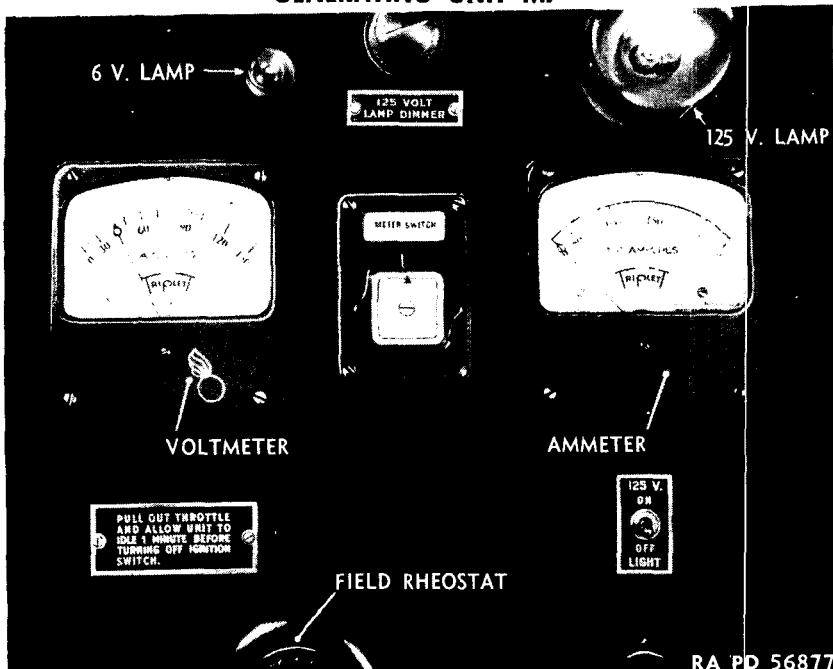

Figure 11—Voltmeter and Meter Switch—Showing Correct Exciter Indication
c. **Load Meter.** To check the voltage of the exciter, the amperage of the current being delivered to each of the three phases of the connected load, and the voltage between phases, the meter switch is provided. The four positions of the control knob, "EXC," "A," "B," and "C," are labeled on the face plate of the switch. When the indicating mark on the control knob is turned to "EXC," the exciter voltage is reflected on the voltmeter (fig. 11). As the switch turns to the "A," "B," and "C" phases of the circuit, the amperage and voltage show on the ammeter and voltmeter (fig. 12). The average of the three readings on the ammeter should not exceed 162 amperes for continuous operation, or 202 amperes over a period of operation not to exceed 2 hours. The difference in ammeter readings should not exceed 10 percent of the average. If the load is largely of the resistance type, such as lighting or heating units, so that the power factor is higher than 80 percent, the current must be limited to approximately 129 amperes normal load, and 162 amperes overload, in order not to exceed the engine's rated capacity.
(1) Two 125-volt bulbs are located in rubber sockets at the top of the panel. The light switch is at the right of the center of the panel, and the lamp-dimming rheostat is located between the lights. In field service, the illumination should be kept at as low a level as possible.
(2) As the 125-volt current is available only when the unit is operating, an auxiliary 6-volt light is provided at the top of the panel. A snap switch to control this is immediately above the choke handle.